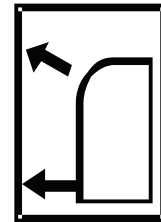

Fig. 17 — Dual Air Flow
2. Make the airflow selection that best suits you. When setting the air flow selection, use the **Dual Air Flow** icon (see Fig. 17).